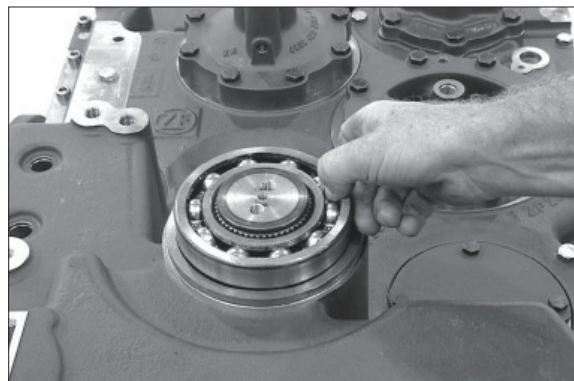
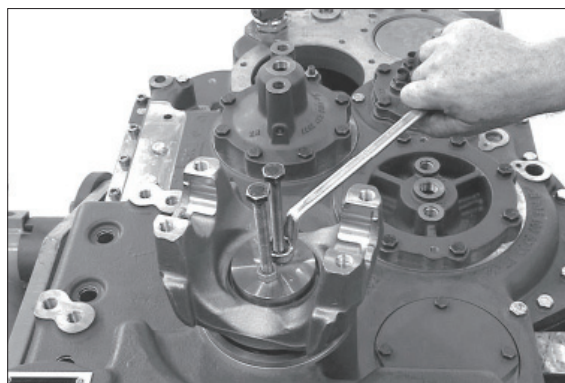

Figure 283
Figure 284
- (7) Install the ball bearing (figure 283) and pull it until contact by means of the output flange (figure 284).